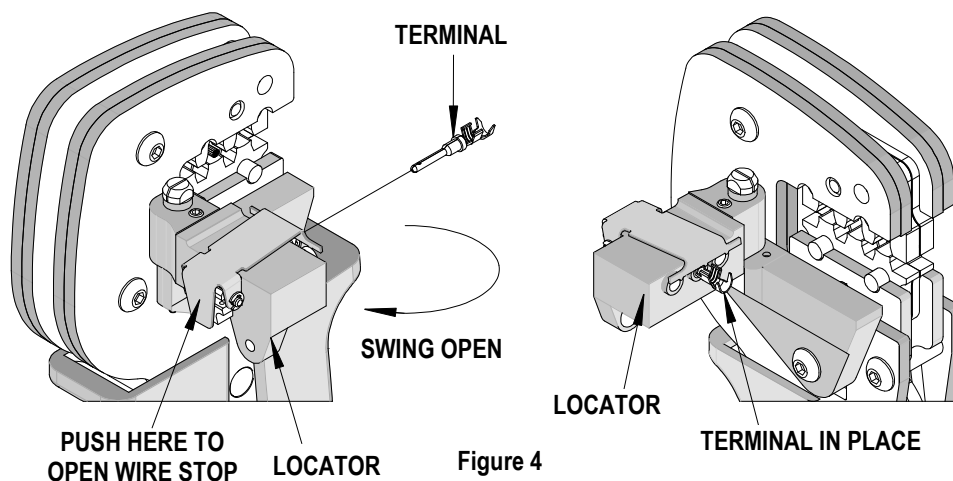
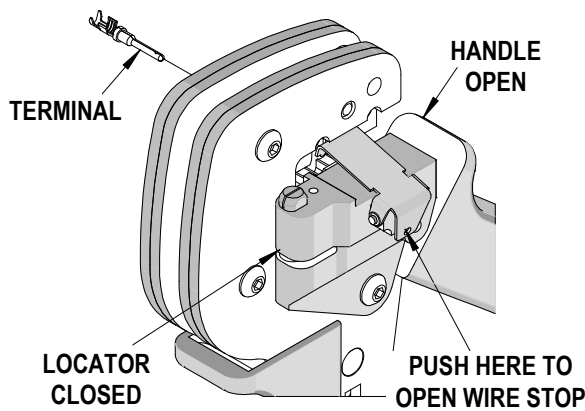

Figure 4
Figure 5
3. Swing the terminal locator away from the crimp tool shown in Figure 4. Some terminals with large insulation grips may interfere with the crimp tooling when swinging the locator into position. The terminal must then be loaded into the locator in the closed crimp position. See Figure 5.
4. Press down on the wire stop on the locator as shown in Figure 4.